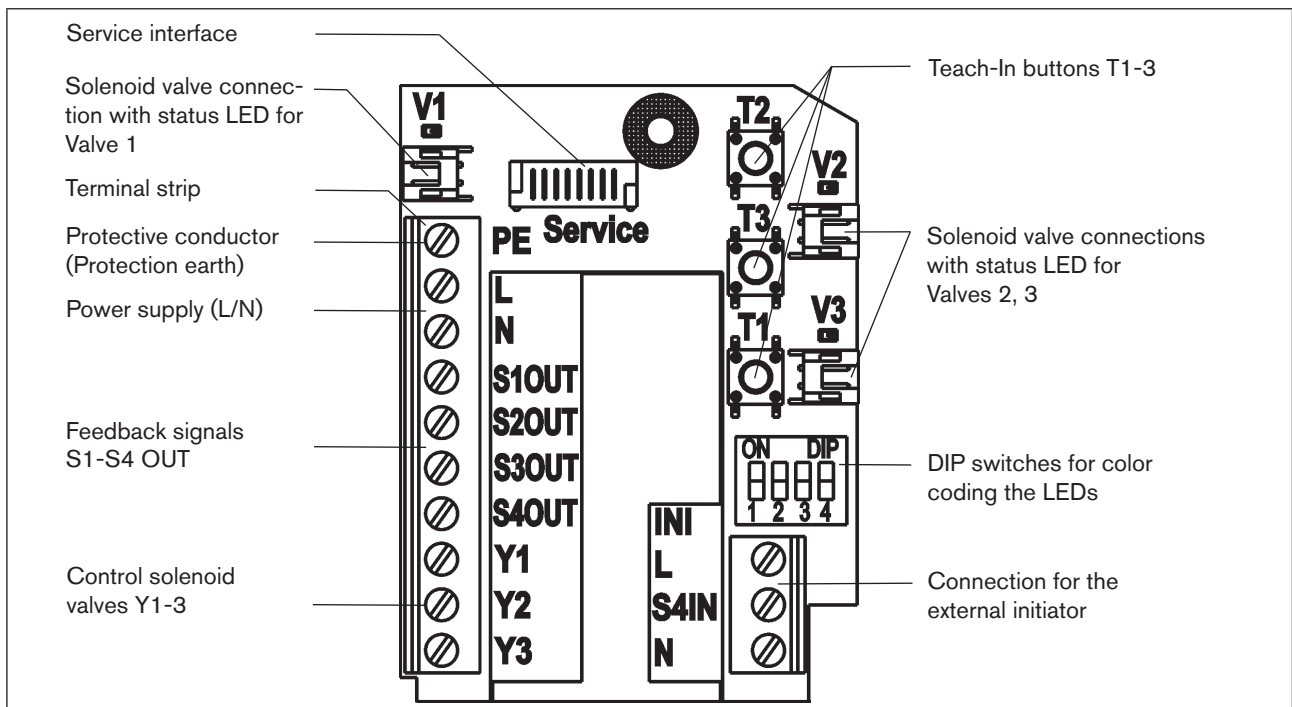

Fig. 29: 120 V AC electronics module
- Connect the wires to the connection terminals according to the connection configuration described in "Fig. 29". If required, secure the cable with a cable clip.